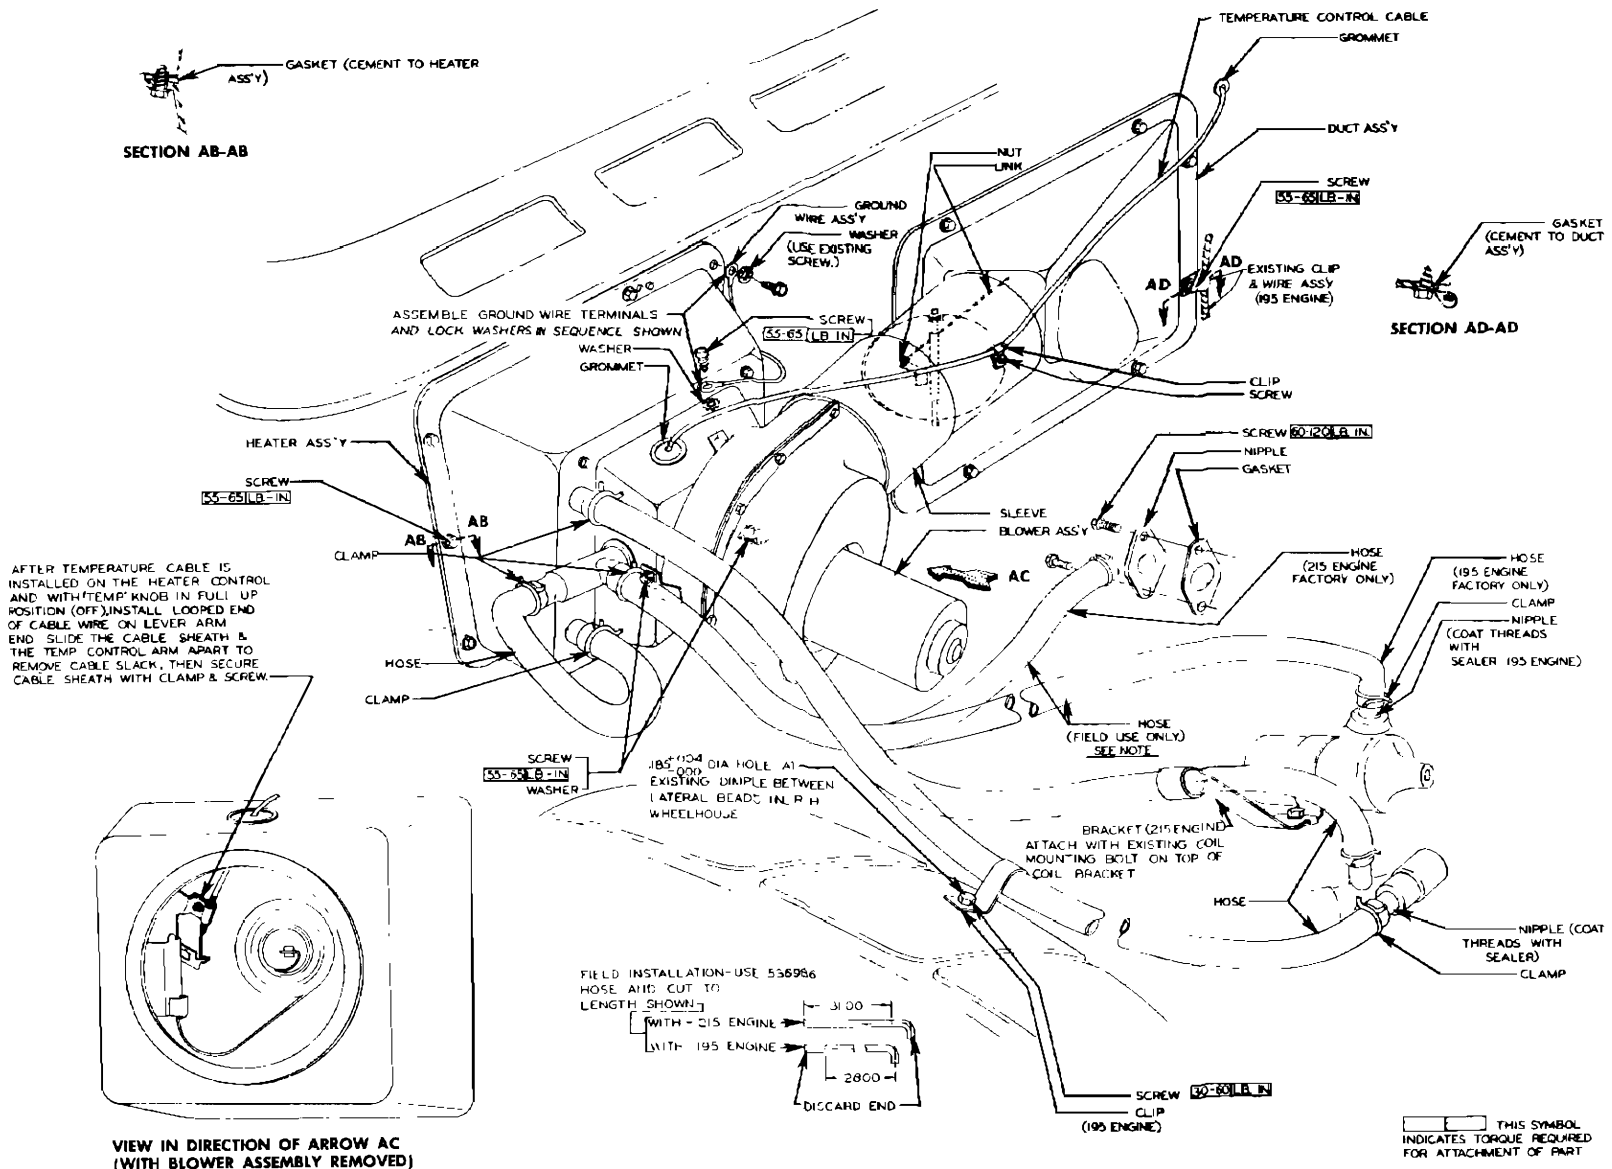

Fig. 3-20 Reference Illustration—Engine Compartment Details
3. Disconnect water inlet hose (intake manifold to temperature control valve) at temperature control valve (Fig. 3-20).